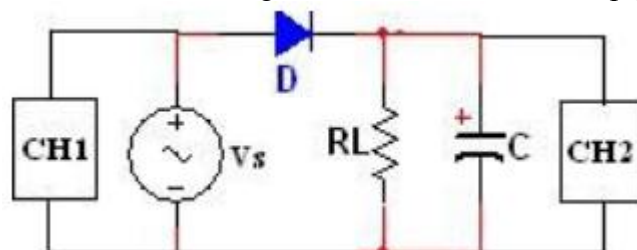

Figure 2.6: Filtered half wave rectifier.
- 1- Construct the circuit shown in Figure 2.6 where:  $R = 1k\Omega$ ,  $V_{p-p} = 10V$ , 100 Hz.